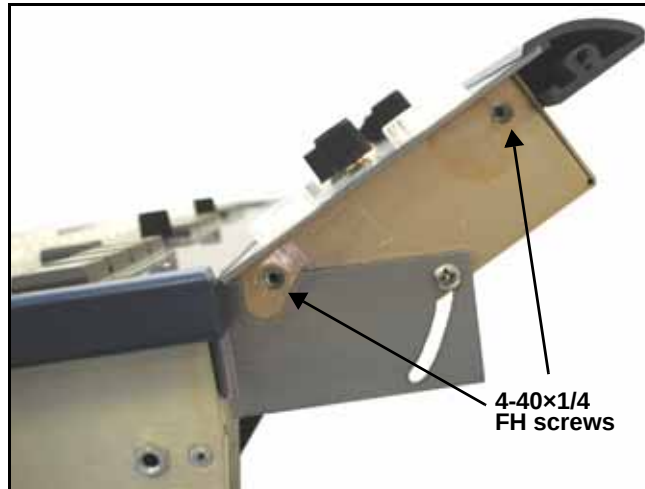

Figure 2-12. Audio Control Panel Side Screws
- d. Replace the two screws on each side of the audio control panel with 4-40×1/4 FH screws (see Figure 2-12).